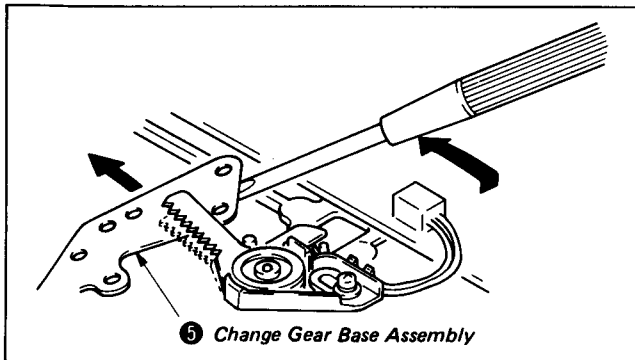
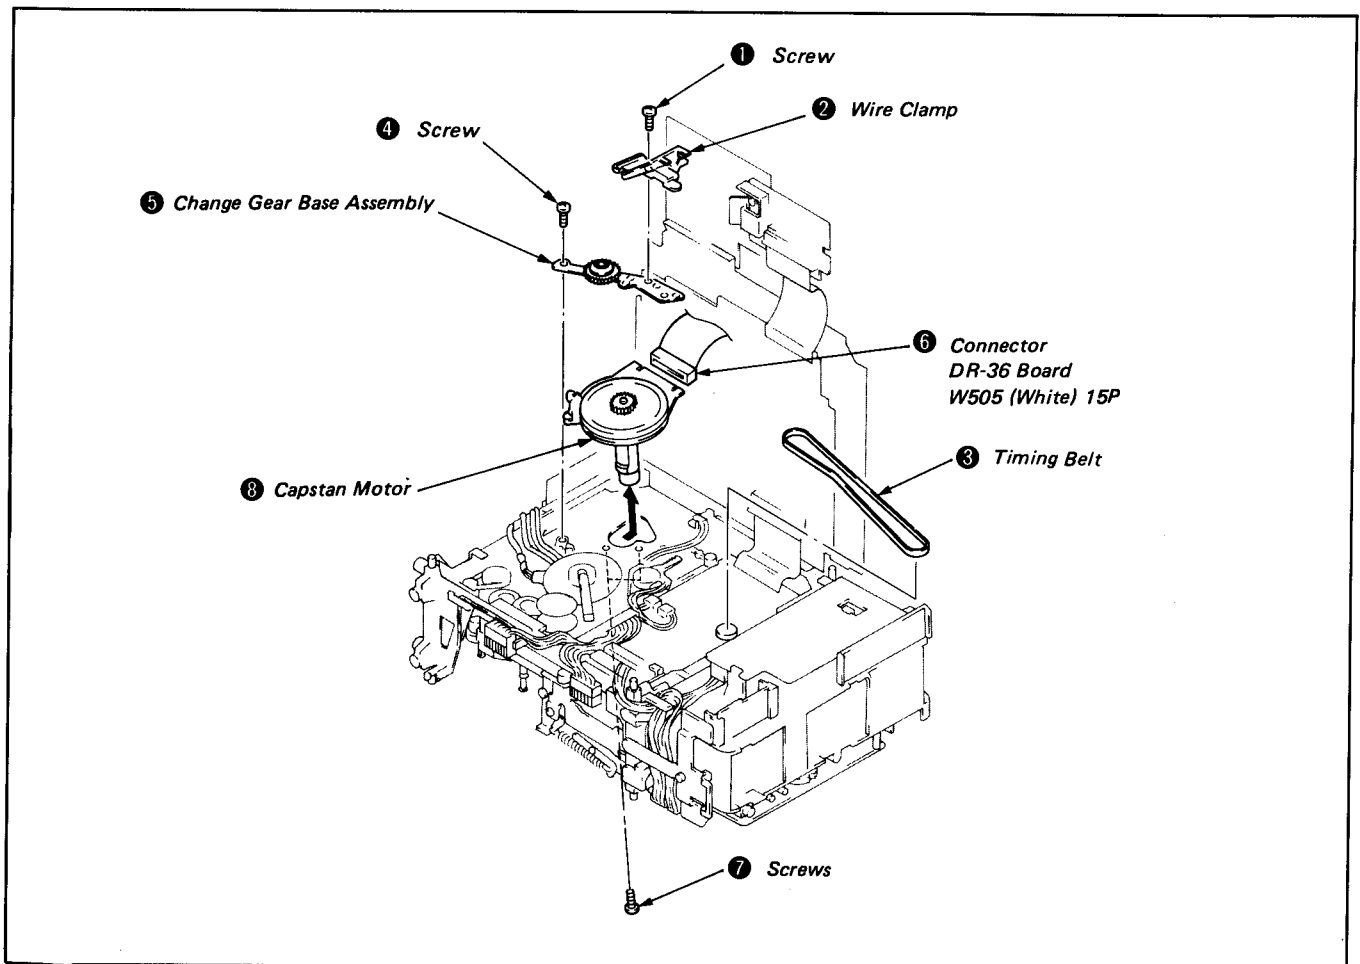

Fig. 8-45.
Fig. 8-46.
- 6) Remove the timing belt ③.
- 7) Remove the screw ④ and the change gear base assembly ⑤ using a screwdriver. (See Fig. 8-45 and 46.)
- 8) Remove flexible connector ⑥.
- 9) Remove two screws ⑦ and remove capstan motor assembly ⑧ in the direction of arrow. (See Fig. 8-46.)
- 1) Remount the capstan motor (M902) ⑧ and tighten two screws ⑦.
- 2) Connect flexible connector ⑥. (See Fig. 8-46.)
- 3) Remount the change gear base assembly ⑤ and tighten the screw ④.
- 4) Re-place the timing belt ③.
- 5) Remount the wire clamp ② and tighten the screw ①. (See Fig. 8-46.)
- 6) Remount wiring into wire clamp ②.